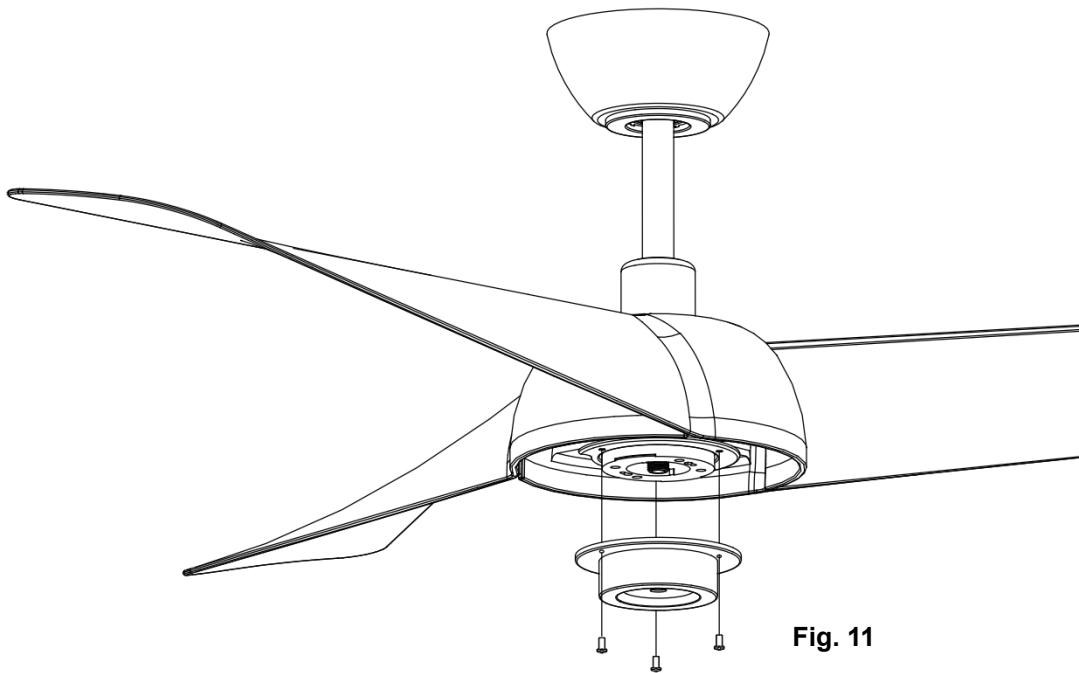

Fig. 11
3. Secure the screws to the adapter. Tighten all three screws. Do not over-tighten.(Fig.11)